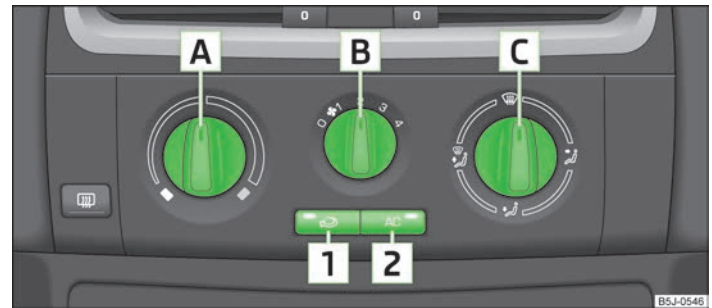

Fig. 76 The air conditioning system: Control elements
The cooling system only operates if the button **AC** **Z** » Fig. 76 on page 70 is pressed, and the following conditions are met:
- › Turn the control dial **A** » Fig. 76 to the right to increase the temperature.
- › Turn the blower switch **B** » Fig. 76 into one of the positions, 1 to 4, to switch the blower on.
- › Press the button **1** to close the fresh air supply » Fig. 76.
- › The direction of the inlet air flow is controlled with air distribution regulator **C** » Fig. 76 » page 68.
- › Press the button **AC** **Z** » Fig. 76 and the warning light in the button illuminates.
- Controls **A** > Fig. 76 on page 70, **B**, **C** and buttons **1** and **2**.
> Press the button **1** > Fig. 76 on page 70 and the warning light in the button illuminates.
> Press the button **1** > Fig. 76 on page 70 again - the warning light in the button goes out.
Recirculated air mode is switched off automatically if the air distribution control **C** > Fig. 76 on page 70 is turned to position . Recirculated air mode can be switched on again from this setting by repeatedly pressing the button .